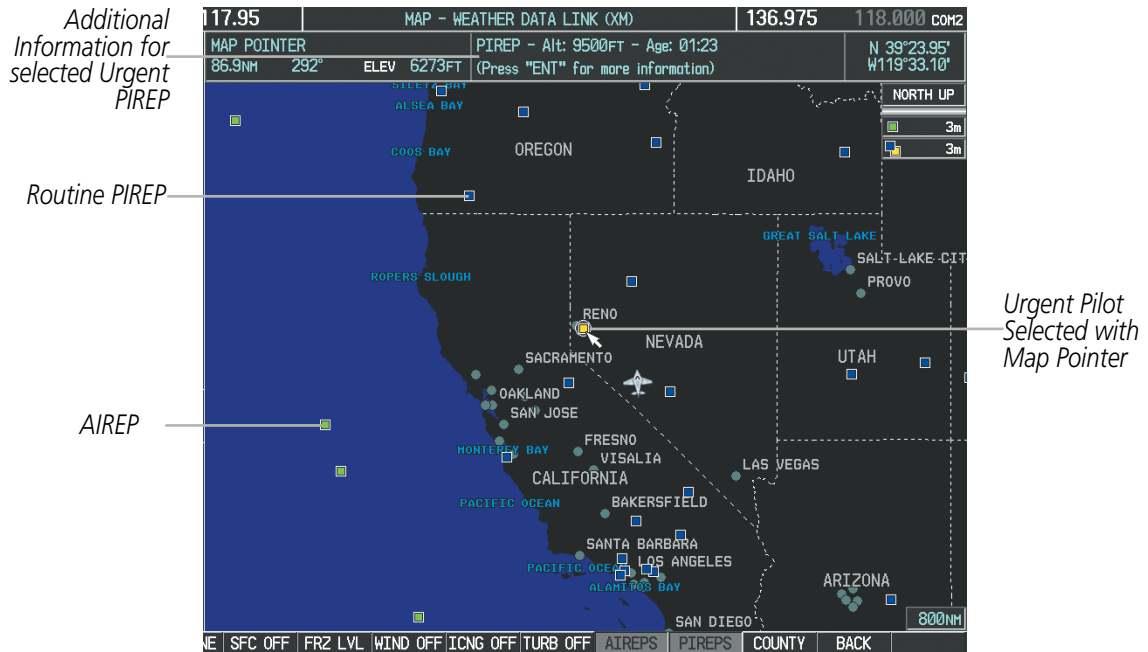

Figure 6-46 PIREPs and AIREPs on the Weather Data Link (XM) Page
Pilot Weather Reports (PIREPs) (Figure 6-46) are in-flight weather observations collected from pilots. When significant weather conditions are reported or forecast, Air Traffic Control (ATC) facilities are required to solicit PIREPs. A PIREP may contain adverse weather conditions, such as low in-flight visibility, icing conditions, wind shear, and turbulence. PIREPs are issued as either Routine (UA) or Urgent (UUA).